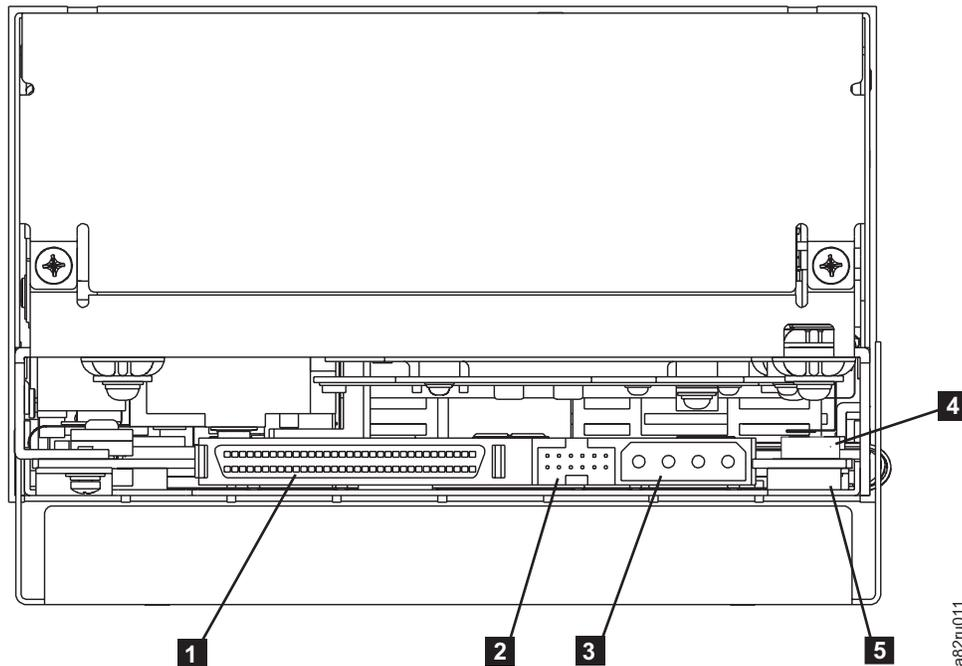

Figure 3. Rear panel of the drive
The SCSI ID can be set on the drive by installing 2 mm jumpers on the drive's SCSI ID connector (see **2** in Figure 3). Your drive may come set to a default SCSI configuration, with jumpers already installed. You can change the SCSI ID by rearranging, adding, or removing jumpers.
1. Locate the SCSI ID connector (**2** in Figure 3).
If your enclosure uses a SCSI ID switch (rather than jumpers), connect the switch to the drive's SCSI ID connector **2** in Figure 3. If any jumpers are preinstalled, be sure to remove them before connecting the switch. The SCSI ID switch must be compatible with the drive's SCSI ID connector and must make an electrical connection between the same pins as the jumpers to achieve the same corresponding SCSI ID.
- ___ 3. Connect the host's internal power cable to the power connector on the drive (see **3** in Figure 3 on page 3).
Connect the enclosure's internal SCSI cable to the SCSI connector on the drive (see **1** in Figure 3).